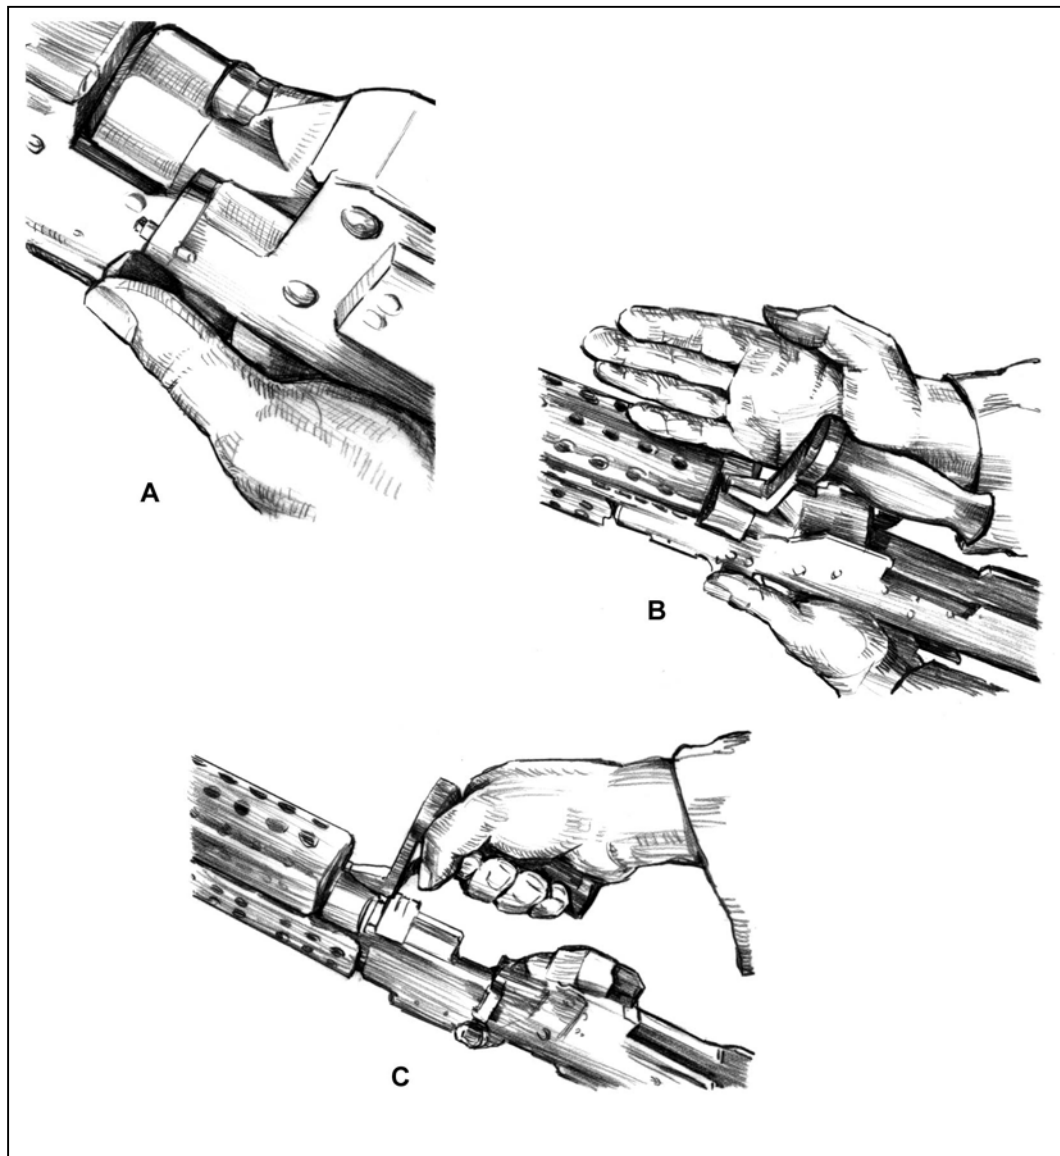

Figure 3-18. Removal of barrel.
f. **Remove the Barrel Assembly.** (A) Make sure that the barrel-carrying handle is to the right side. Depress the barrel-locking latch located on the left side of the receiver where the barrel joins the receiver and hold. (B) Grasp the barrel carrying handle and rotate the carrying handle to the upright position (without pulling up on the barrel release). (C) Then push forward and pull up, separating the barrel from the receiver (Figure 3-18).